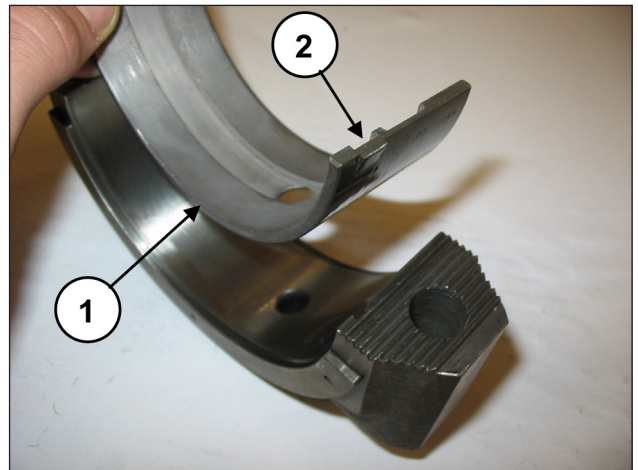

Fig. 82
Apply the lower half-bearings to the caps (pos. ①, Fig. 82) ensuring that the half-bearing reference notches are positioned in their housing on the cap (pos. ②, Fig. 82).